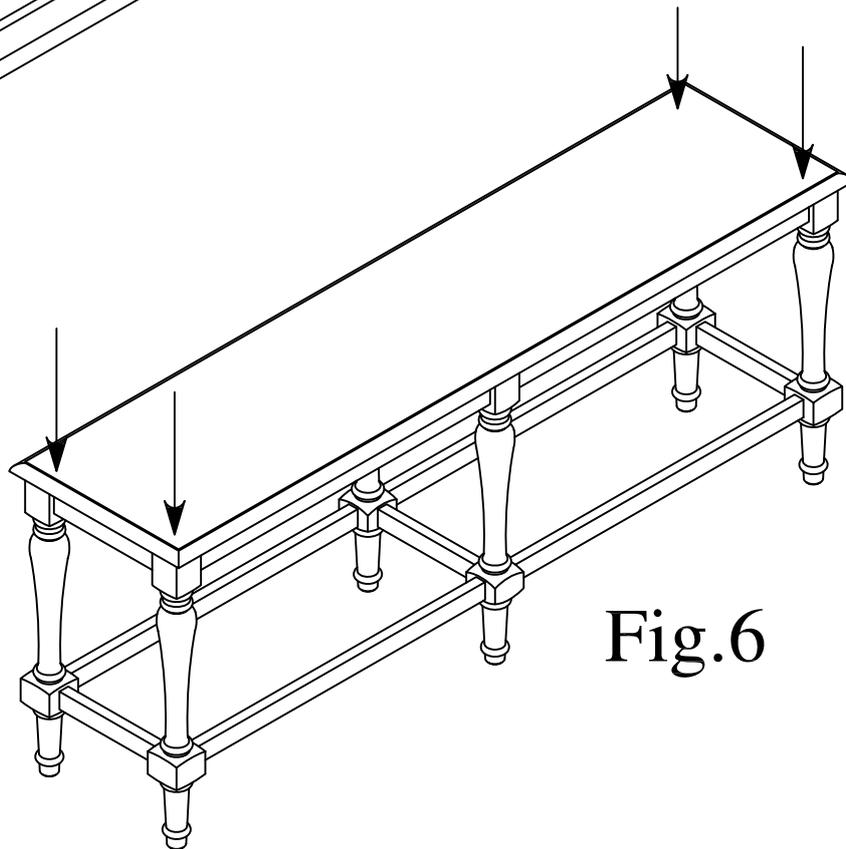

Fig.6
Step 6: Place the loosely assembled Bench on a hard flat surface and apply gentle downward pressure on the seat. As shown on Fig.6. Once the Bench is balanced and leveled, fully tighten all bolts.